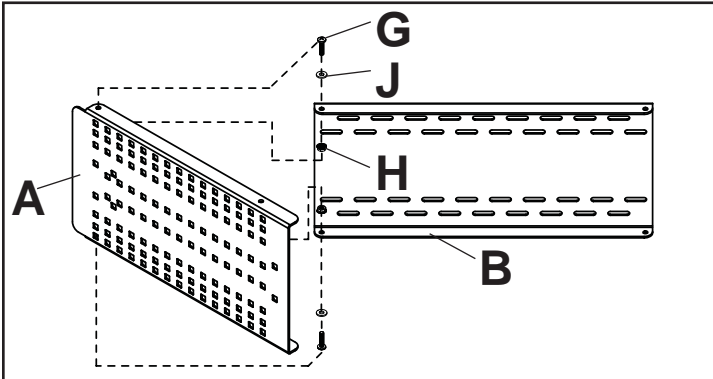
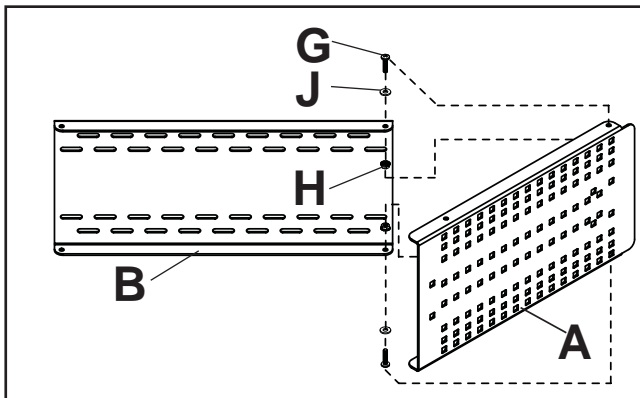

fig. 2.1
fig. 2.3
- 2 Attach interface plate (A) to wall plate (B) using two sets of 1/4-20 x 1" round phillips head screws (G), 1/4" flat washers (J) and 1/4-20 flanged serrated locknuts (H) as shown in fig 2.1 or 2.2 for interior corners or fig 2.3 or 2.4 for exterior corners. Repeat for opposite interface plate.